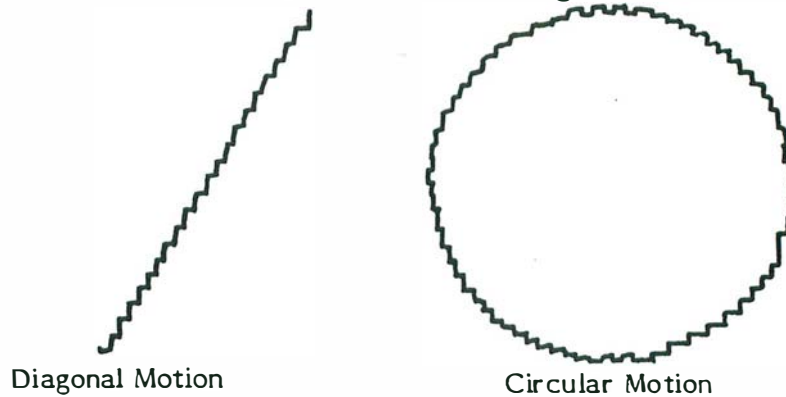

Figure 7-4. Diagonal or Circular Motion.
**NOTE: When moving in diagonal or circular motions, the cursor will move in slight "steps". This is due to the type of programming used and should not be considered a trakball failure (see Figure 7-4).**